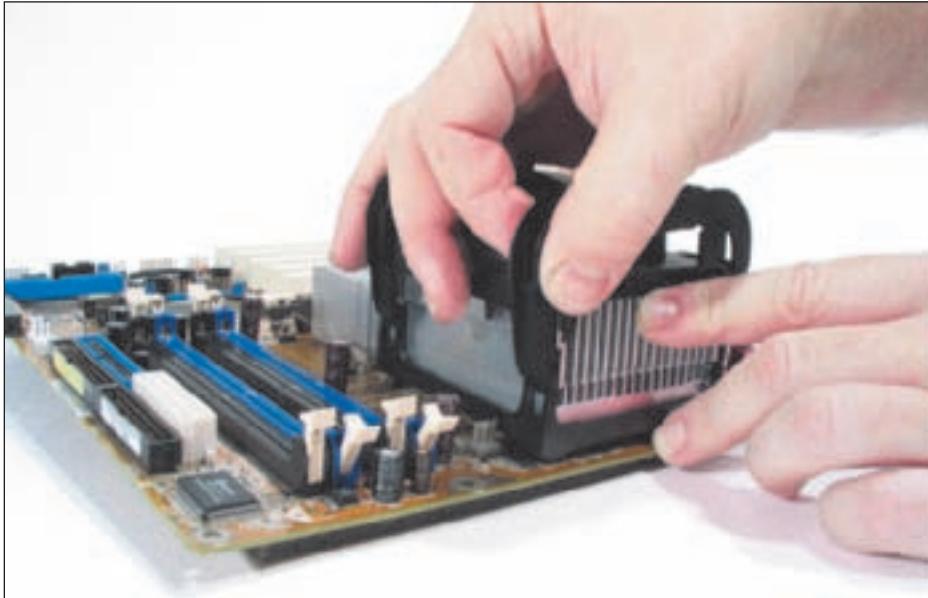

Figure 6-41 Carefully push the cooler assembly clips into the retention mechanism on the motherboard until they snap into position
3. Carefully examine the clip assembly that surrounds the fan and heat sink. Line up the clip assembly with the retention mechanism already installed on the motherboard, and press lightly on all four corners to attach it (see Figure 6-41).